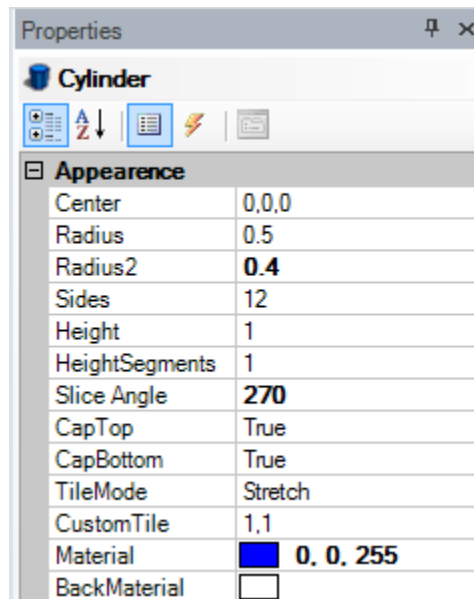

Figure L3.1 - Cylinder Properties
- Set the Radius2 property to 0.4 and set the Slice Angle property to 270. This will give us an opening on the tank so we can see what is in it. The properties of the object should look similar to Figure L3.1.